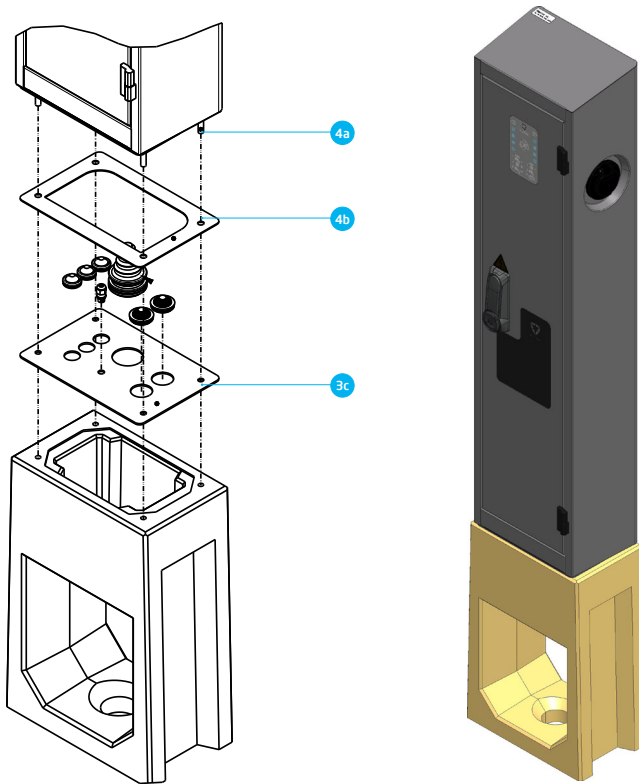

Fig. 6: Charging station on base, exploded view and reference to work steps
- c. Pass the earthing cable, coming from the earthing pin, through the concrete base and swivel in the sealing plate. See figure 6.
- a. Insert the four threaded rods supplied M10x80 mm into the sockets on the base. See figure 6.
- b. Place the gasket over the threaded ends and the sealing plate. See figure 6.